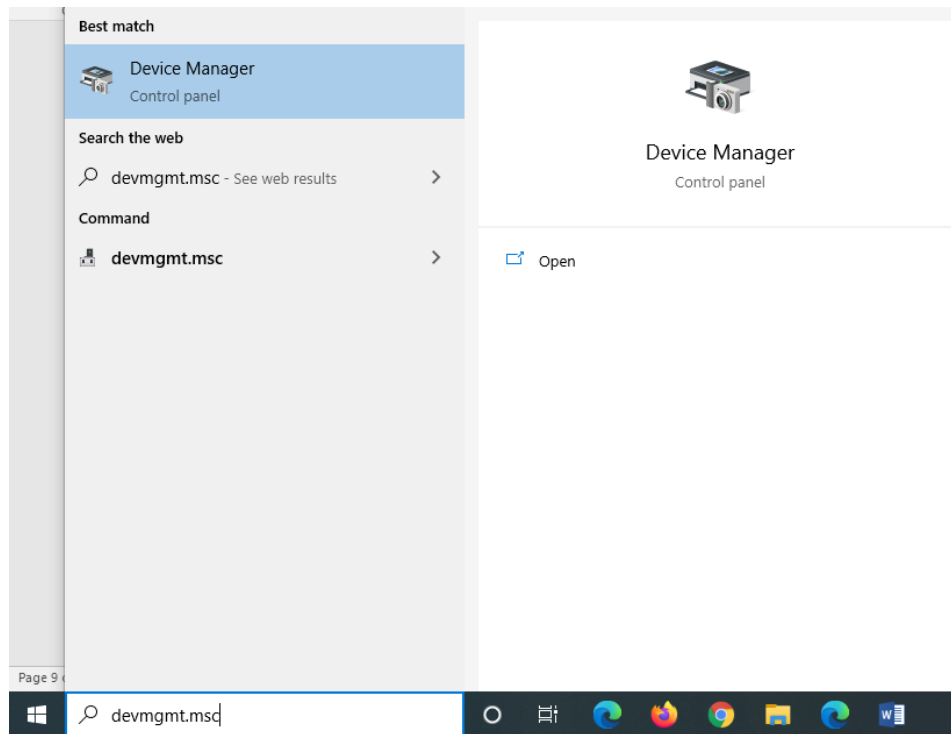
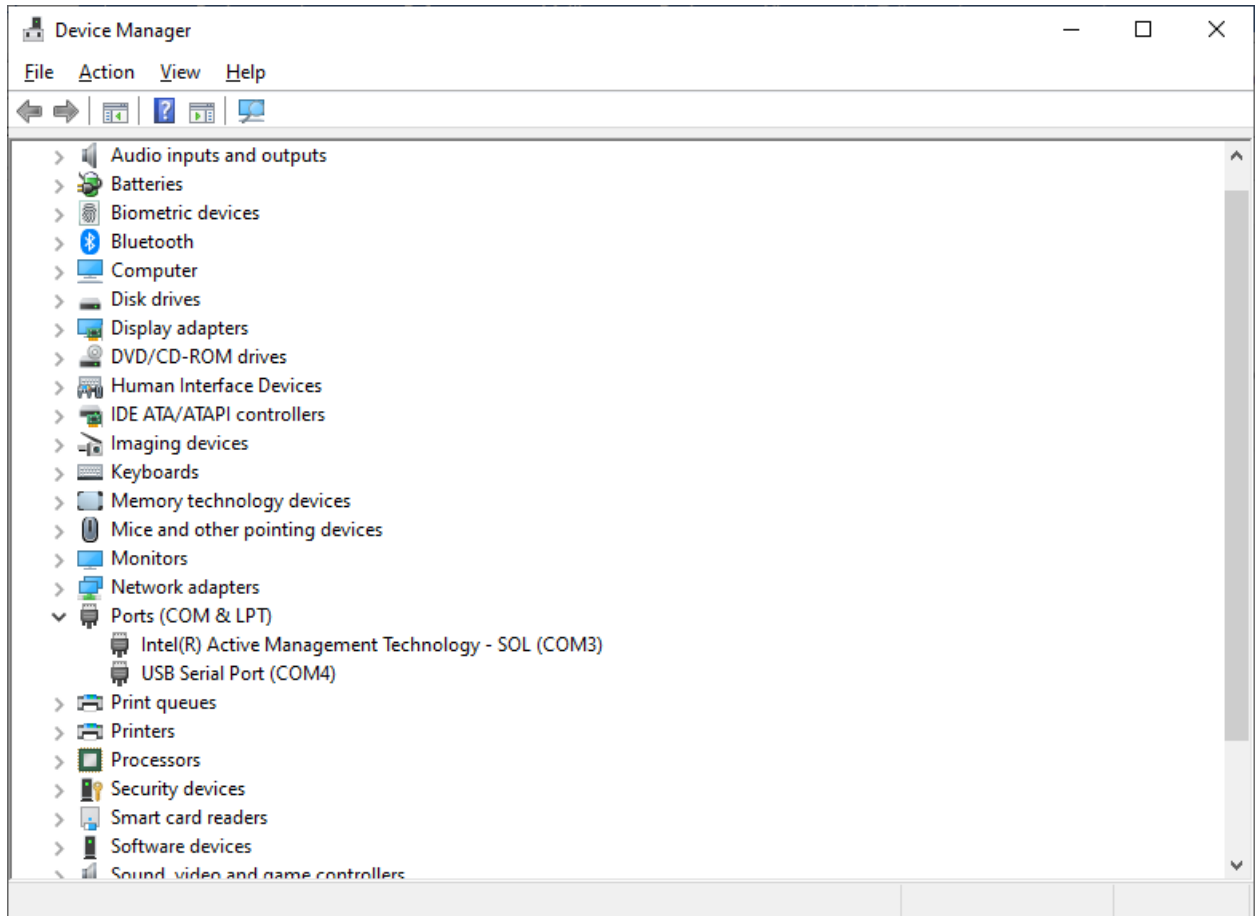
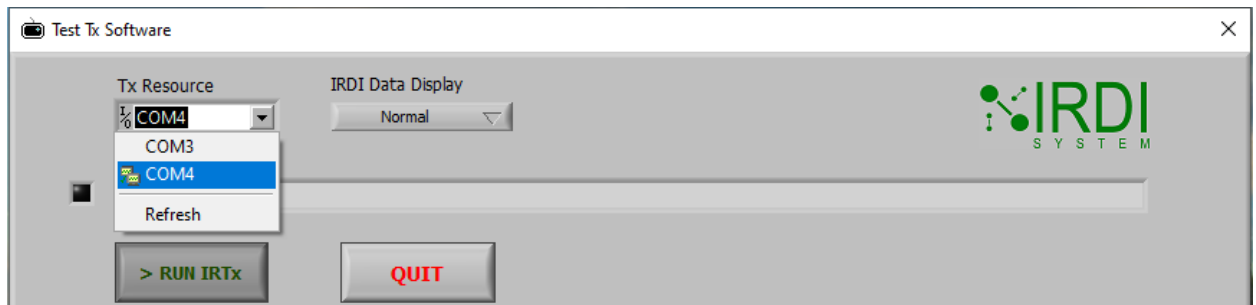

FIGURE 4-3 OPEN DEVICE MANAGER
FIGURE 4-4 VERIFY IN DEVICE MANAGER
FIGURE 5-2: COMMUNICATIONS ERROR MESSAGE
STEP 3	Device may appear in Device Manager with a yellow exclamation mark. If this happens, open Device Manager - see Figure 4-3 to verify– see Figure 4-4. Initiate the USB driver installation by right-clicking the USB device and selecting “> Update Drivers > Automatic? (Search Windows Update)”.
STEP 4	Select the Port in the TX Resource drop-down menu – see Figure 5-2 that corresponds to the IRDI Transmitter found in Device Manager – Figure 4-4.